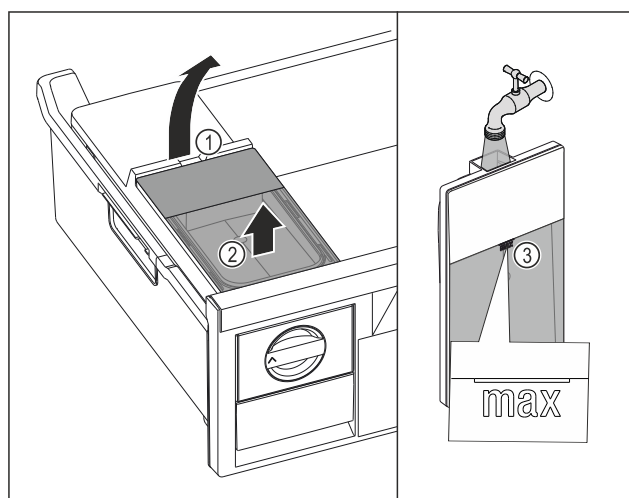

Fig. 85
- Lift the water tank at the recess Fig. 85 (1).
- Remove the water tank by lifting it upwards. Fig. 85 (2)
- Fill the water tank with drinking water up to the mark Fig. 85 (3).